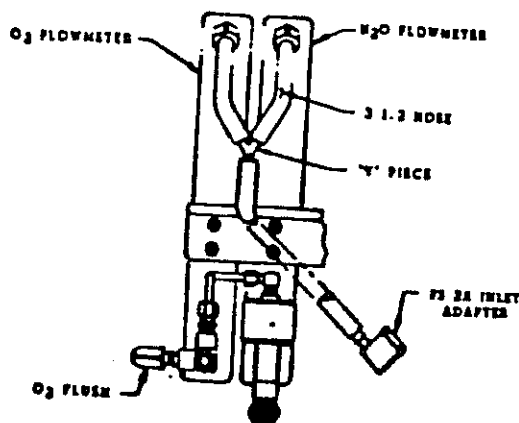

Figure 6 - Back View
5. Connect the two 3-1/2-inch hoses to the "Y" connector and connect the long hose to the center leg of the "Y" hose (see Figure 6).
6. Push one end of the long tube onto the center leg of the "Y" connector and connect the other tube end to the vaporizer inlet (see Figure 6) using the FS2A inlet Adapter.